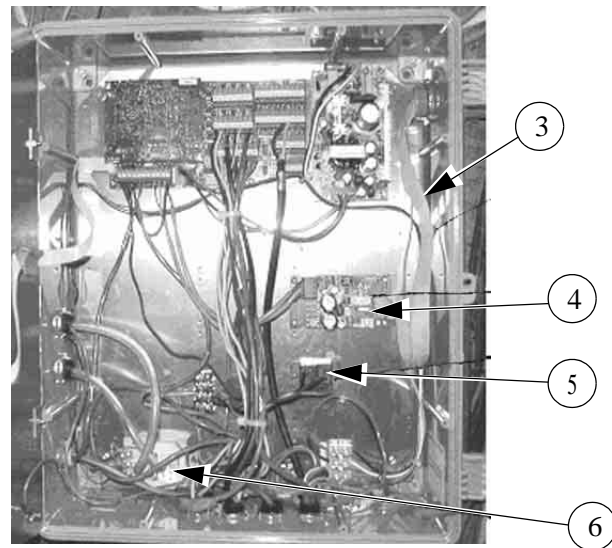

Figure 5. Installing Retro Box
- Step 5:** Mount the Static Pressure Kit in the mounting holes in the main box. Reconnect the hoses (**See figure 5 above**).